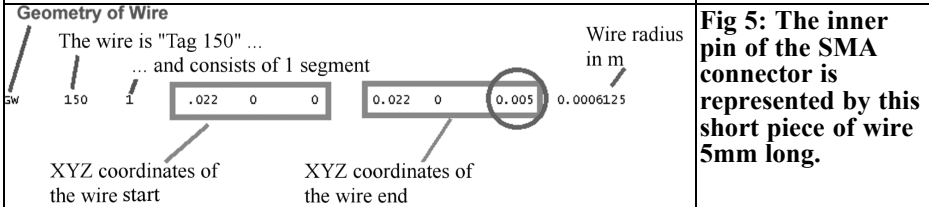

Fig 5: The inner pin of the SMA connector is represented by this short piece of wire 5mm long.
- “GW” (Geometry of Wire) for the connecting wire, see Fig 5. It represents the interior leader of the SMA socket and at the same time energizes the antenna. Its upper end is connected to the start of the Helix (coordinates of Helix and the upper end of the piece of wire the same). The lower end of the wire is put on the Ground level that is formed by the reflector. NEC automatically puts the feed point into the centre segment. Thus the upper end of the feed wire will meet the start of the Helix at a height of 5mm.